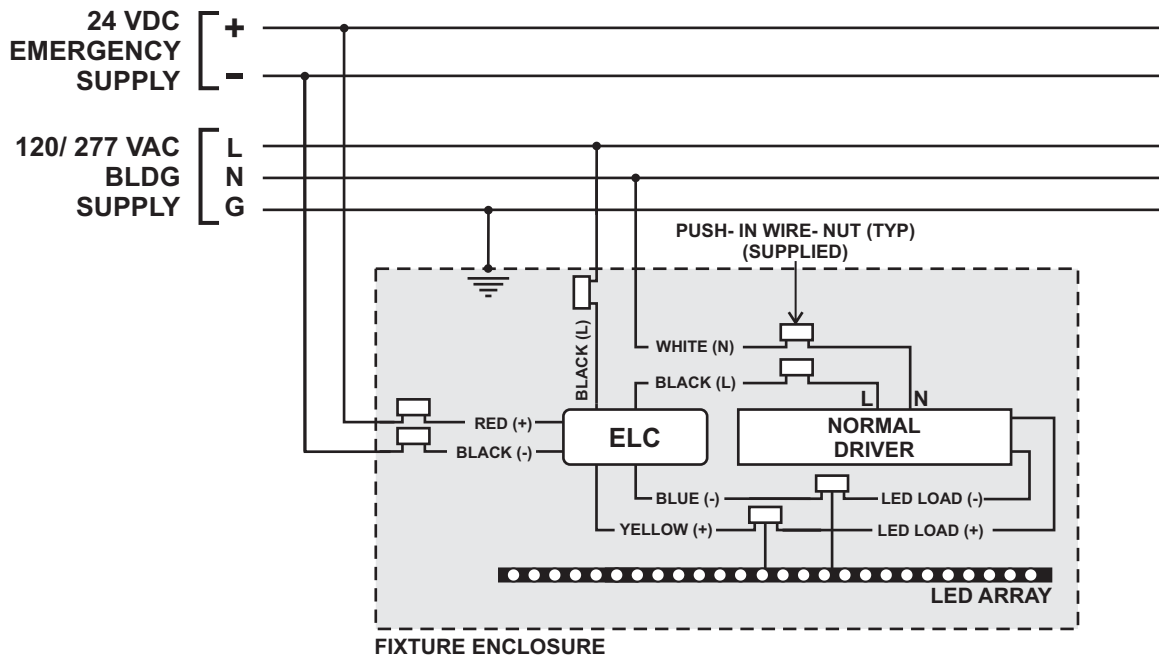

Fig. 1
3. See Fig 1. Output has a POSITIVE (Yellow) and NEGATIVE (Blue) wire. Using push-in wire nuts supplied, connect output from the ELC as shown to LED LOAD NEGATIVE and LED LOAD POSITIVE output wiring from the normal driver. DO NOT CROSS POLARIZE LED WIRING.
SEE Fig. 1 FOR MULTIPLE DRIVER OPTIONS